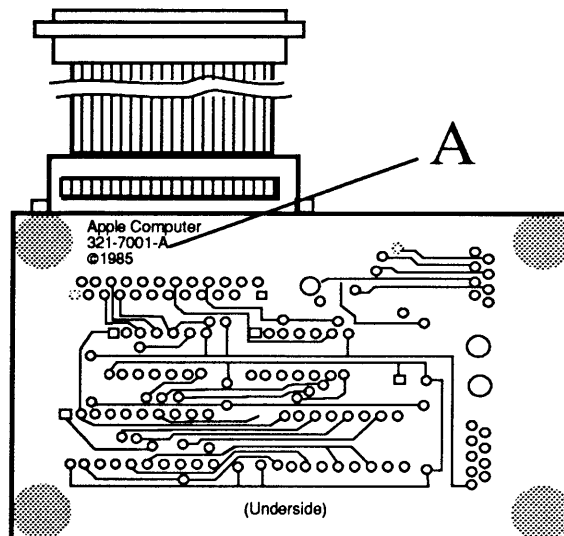

Figure 3-10 SCSI Loopback Card
To determine whether you have a card that does not need to be jumpered, look at the back of the card. If the circuitry includes the jumper, an *A* instead of two zeros (00) appears at the end of the part number, which is located under the words *APPLE COMPUTER*. If the part number ends with an *A*, you do not need to jumper the card (see **Figure 3-10**).